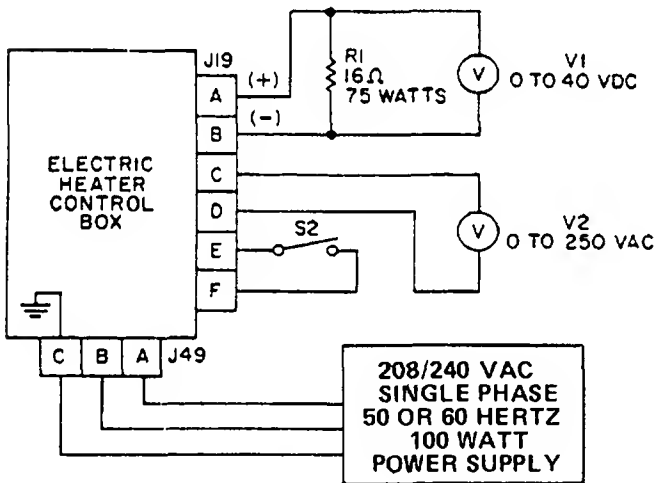

Figure 13-7. Electric Winterization Kit Control Box, Test Setup
- (1) Connect control box to test equipment as illustrated in figure 13-7.